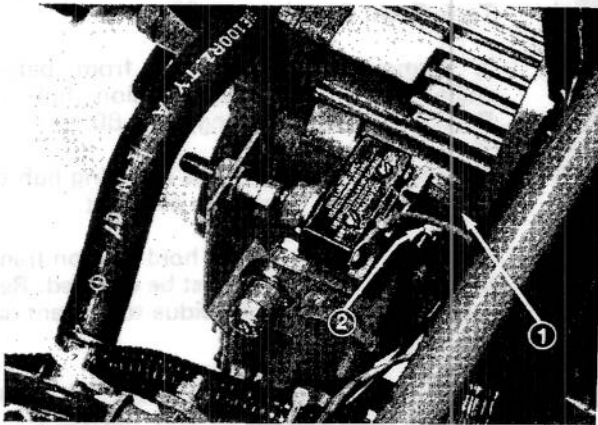

Figure 121
4. Loosen two locknuts securing pump plate so plate is free to move (Fig. 121).
5. Start engine and rotate pump plate (Fig. 121) in either direction until wheel ceases rotation.
1. Pump plate 2. Locknut (2)
6. Stop engine and tighten locknuts to secure pump plate (Fig. 121).